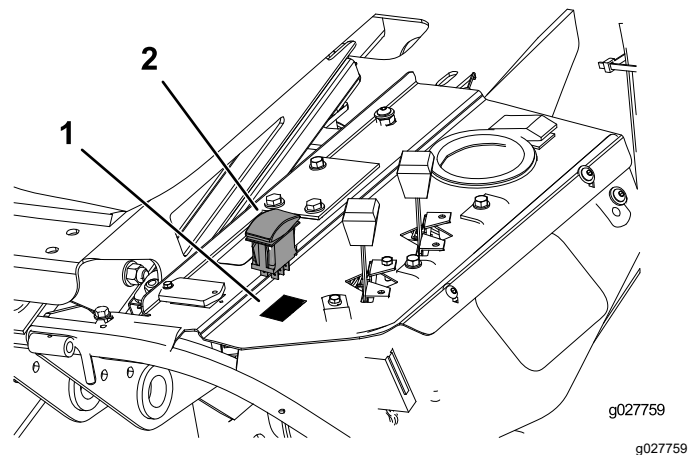

Figure 7
- Remove the plastic plug and install the switch as shown in Figure 7.